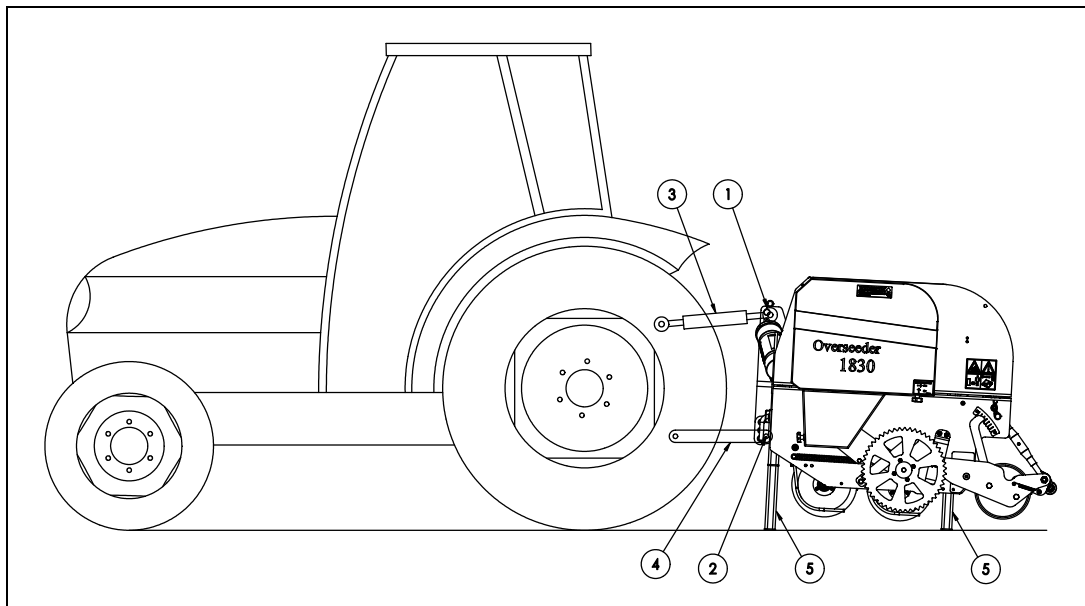

Fig.7
The method is as follows: (Fig. 7)
**Make sure the top link (3), see Fig. 7, is connected and tensioned in the conveyor. If this is not case, the machine could sustain serious damage.**